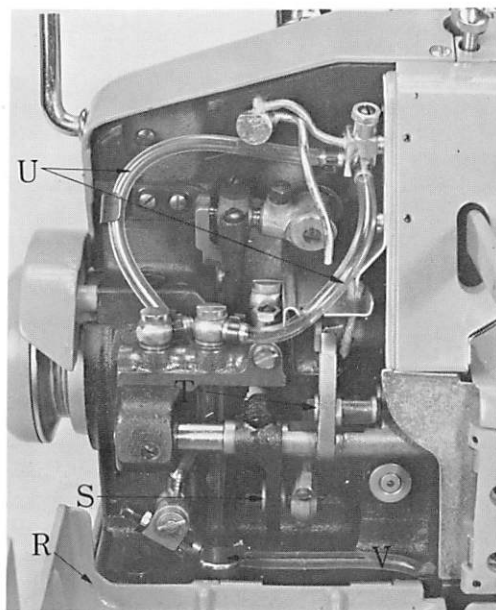
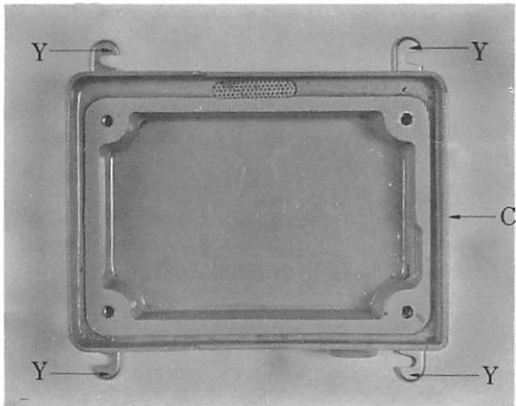

Fig. 5
Fig. 11
Caution! Oil was drained from machine when shipped, so oil reservoir (machine base, Fig. 1, C & Fig. 11) must be filled with oil before beginning to operate. Oil reservoir contains 400 cc and is filled with oil at oil filler cup (Fig. 5,V) located at the back of machine bed after opening frame rear cover (Fig. 5,R) backward.
After filling reservoir with oil, run machine and check circulation of oil through oil vinyl tubes (Fig. 5, U) at the back of machine.
TO REGULATE THE STITCH LENGTH (See Fig. 5)
To regulate main feeding, turn balance wheel until main feed dog (back) is positioned as close to the front as possible. Swing out frame rear cover (Fig. 5, R) backward. Loosen screw (S) with wrench, furnished with machine. To move screw (S) upward will increase stitch length and to move screw (S) downward will decrease stitch length. Note that the amount of main feeding will change slightly as differential feeding ratio is changed.
(See Fig. 11 & 12)
The machine (base-oil reservoir, Fig. 11) must be installed with four machine base set hooks (Fig. 11, Y) and wood screws, furnished with machine, after the location on the table top is fixed. Be sure to set correctly a machine base set hook with the groove of cushion rubber installed on the bottom of machine base before setting the other side (Fig. 11, Y) of hook with wood screw.